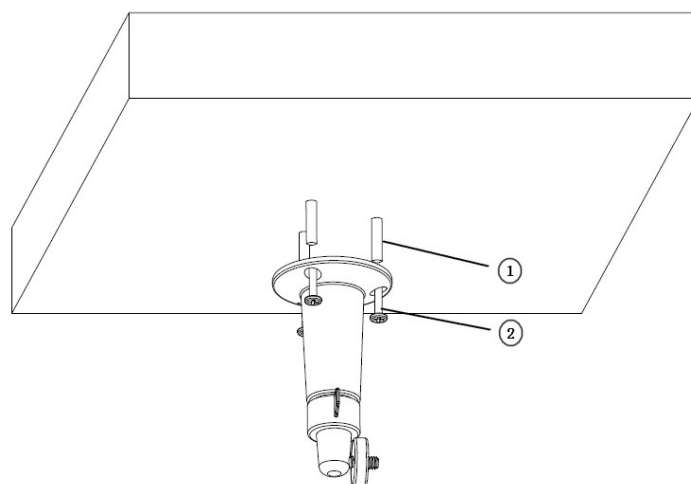

Fig 2.2.1 Fix camera mounting bracket
If it is wall, you need to fix the expand bolt (note: the mounting hole of the expand bolt should align with the bracket) before fixing the bracket as ② in Fig 2.2.1 . If the wall surface is wooden, the part of ② in Fig 2.2.1 can be ignored and you can use the self-tapping screw to directly fix the bracket. Please note that the wall on which the camera is fixed should be able to bear at least three times the weight of the bracket and the camera.